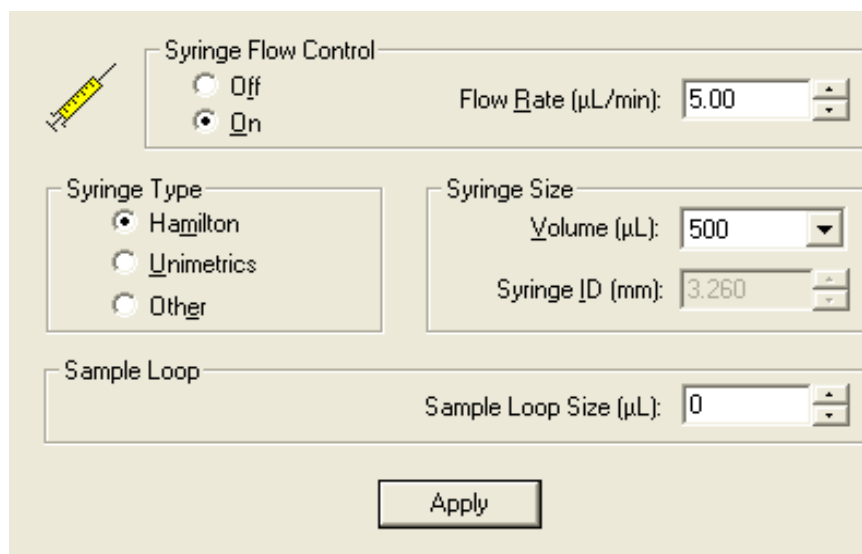

Figure 28. Syringe Pump and Sample Loop view
1. Choose **Setup > Syringe Pump & Sample Loop** to display the Syringe Pump and Sample Loop view in the top right corner of the workspace, as Figure 28 shows.